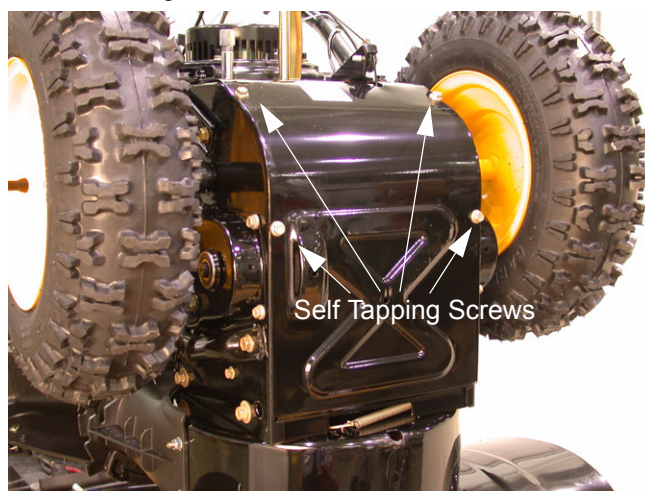

Figure 19
- 10.6. Using a 3/8" socket, remove the four self-tapping screws that secure the frame cover to the frame. See Figure 19.